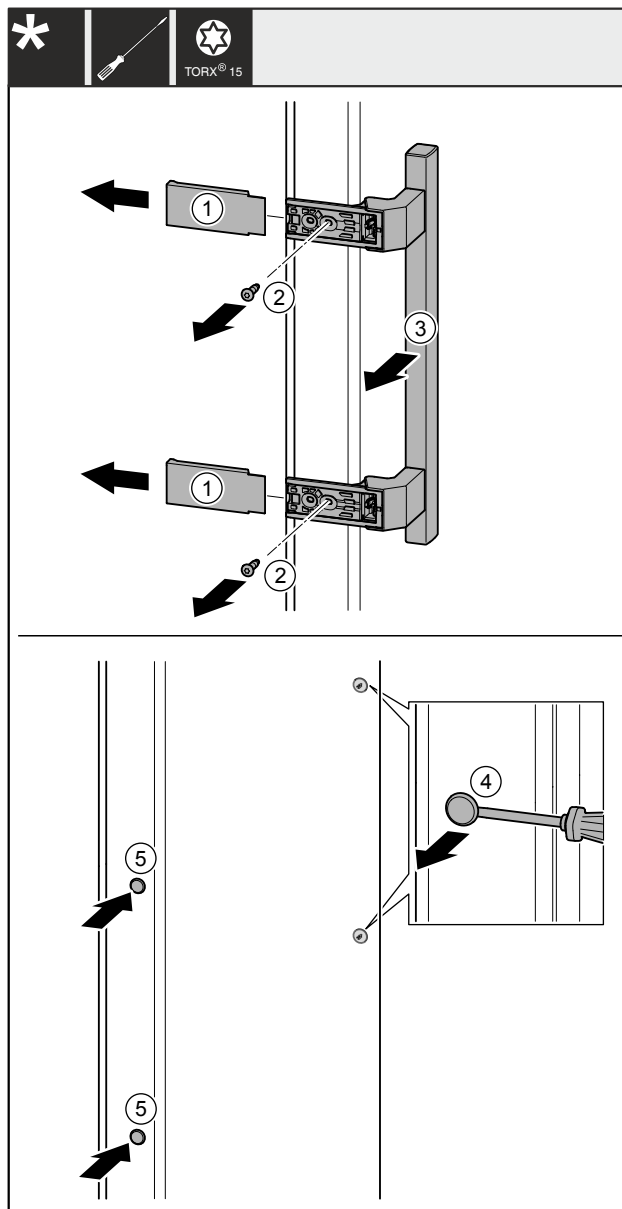

Fig. 40
- ▶ Remove the covers Fig. 40 (1).
- ▶ Unscrew screws Fig. 40 (2) with screwdriver.
- ▶ Remove the handle Fig. 40 (3).
- ▶ Use a slotted screwdriver to lift the side plug Fig. 40 (4) carefully and pull it out.
- ▶ Re-insert the plug Fig. 40 (5) on the other side.